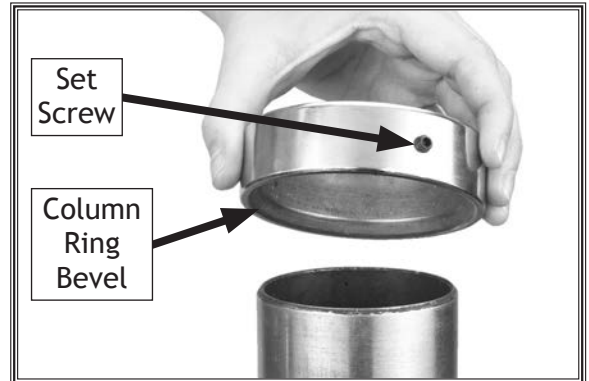

Figure 15. Column ring in correct position.
- 9. Slide the column ring onto the column with the inside bevel in the down position until the rack tapered-point seats into the bevel (see Figure 15).